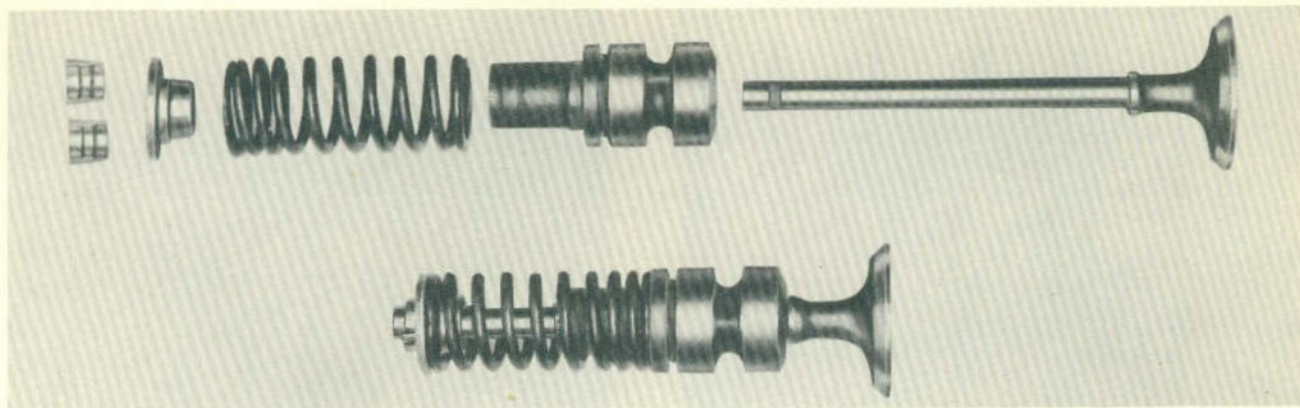

Fig. 4
Step 7—Disassemble a valve unit as shown in Figure 4.